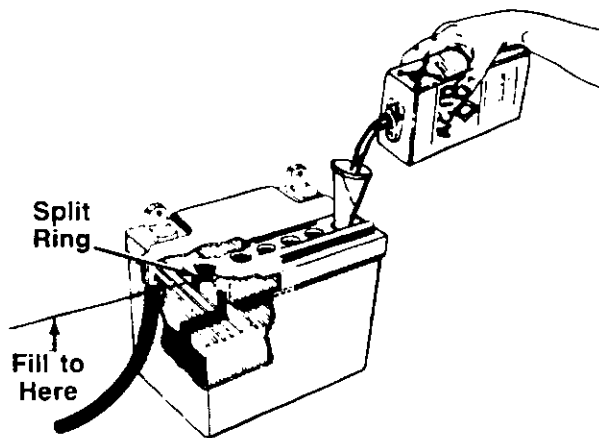

FIGURE 2.
- ← 6. Fill each battery cell slowly and carefully to the split ring at the bottom of the well. See figure 2. Use caution as the acid level will rise rapidly after the bottom of the cell is filled. DO NOT OVERFILL.